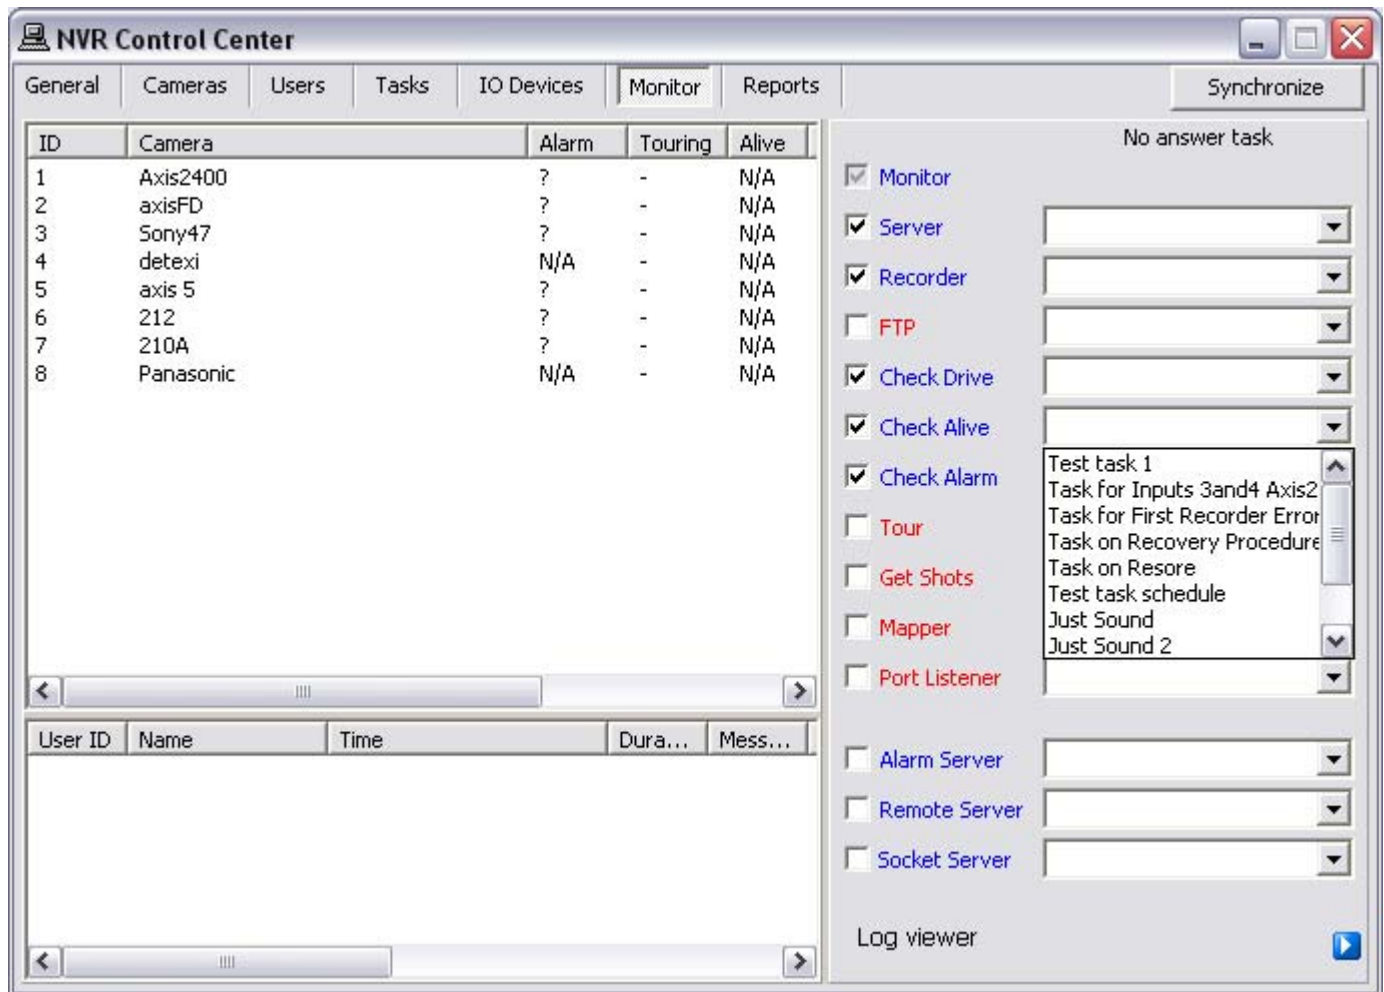

Fig 1. NVR Control Center — Monitor — No Answer Task
1. In the **NVR Control Center — Monitor** (Fig 1).